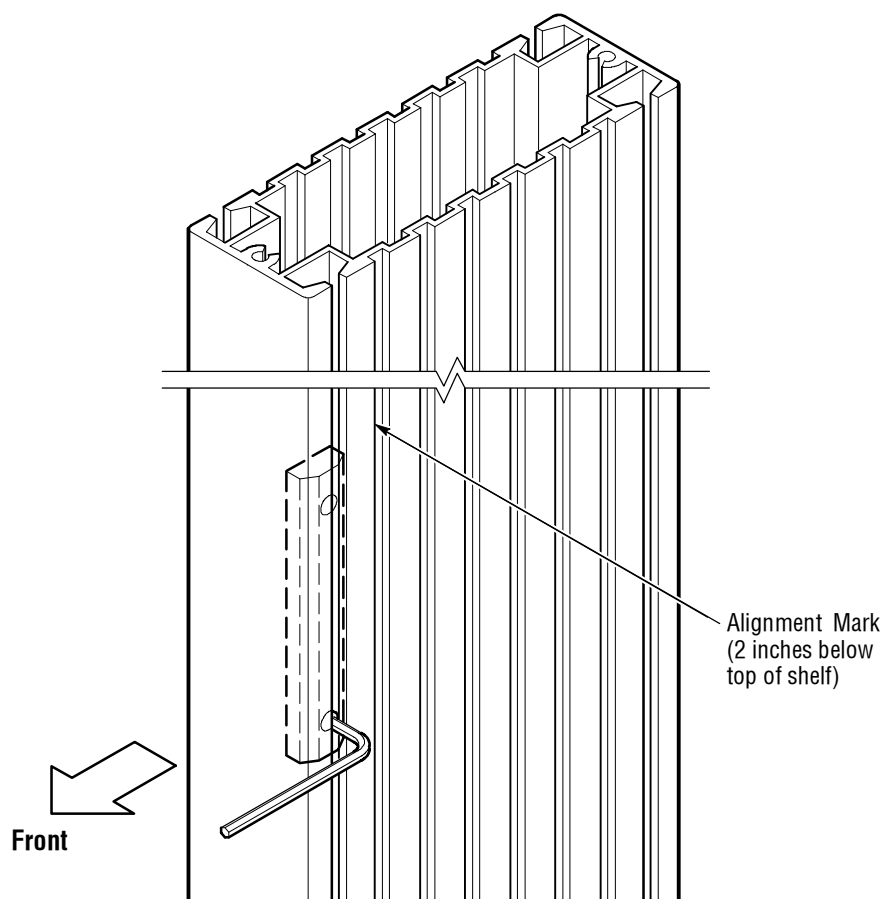

Figure 11: Long Rail Alignment Marks on the Leg Assemblies
2. Slide one long rail down the front channel each leg assembly with the set screw at the bottom. Position the long rail so that its top edge is about two inches below the final tilt shelf height. Figure 11 shows the alignment marks that you will find on the leg assemblies. Align the tops of the long rails with these marks. Tighten the set screws using the 1/8 inch Allen wrench.